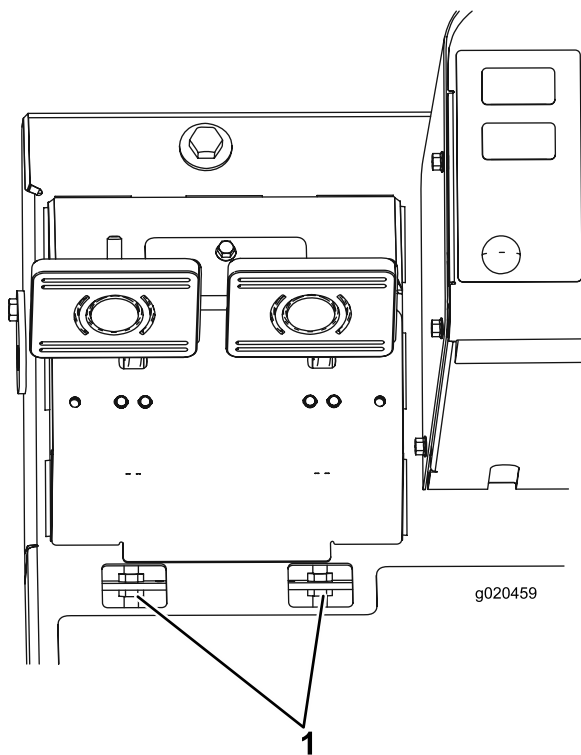

Figure 64
- B. Loosen the front nut on the threaded end of the brake cable (Figure 64).